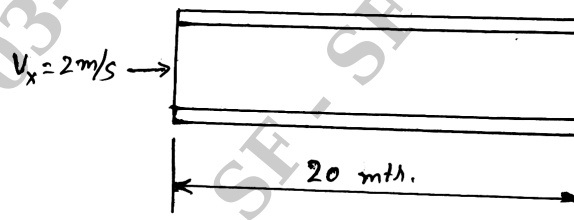

Fig Q8(b)
b. For the smooth pipe shown in Fig Q8(b), with uniform cross section of 1 m^2 , determine the flow velocities at the centre and right end, Take velocity at left $V_x = 2\text{ m/sec}$.